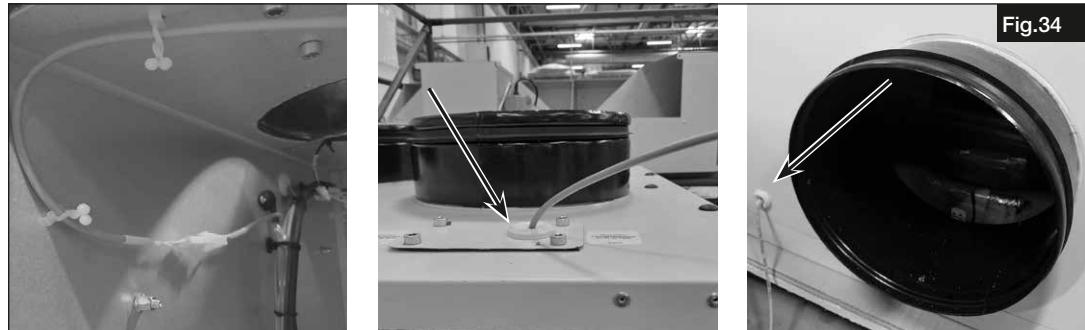

Fig.34
3. Pass the extension cable from the water heater sheet through the gasket. Then pass the cable into the Change-Over-Register DX unit (see Fig.34).